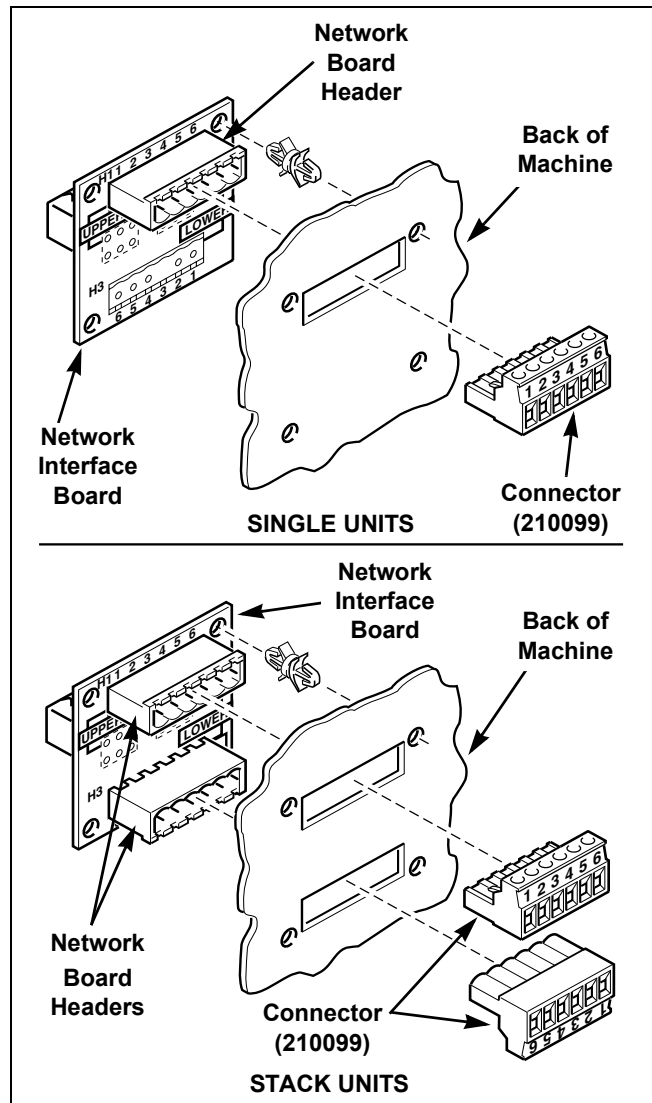
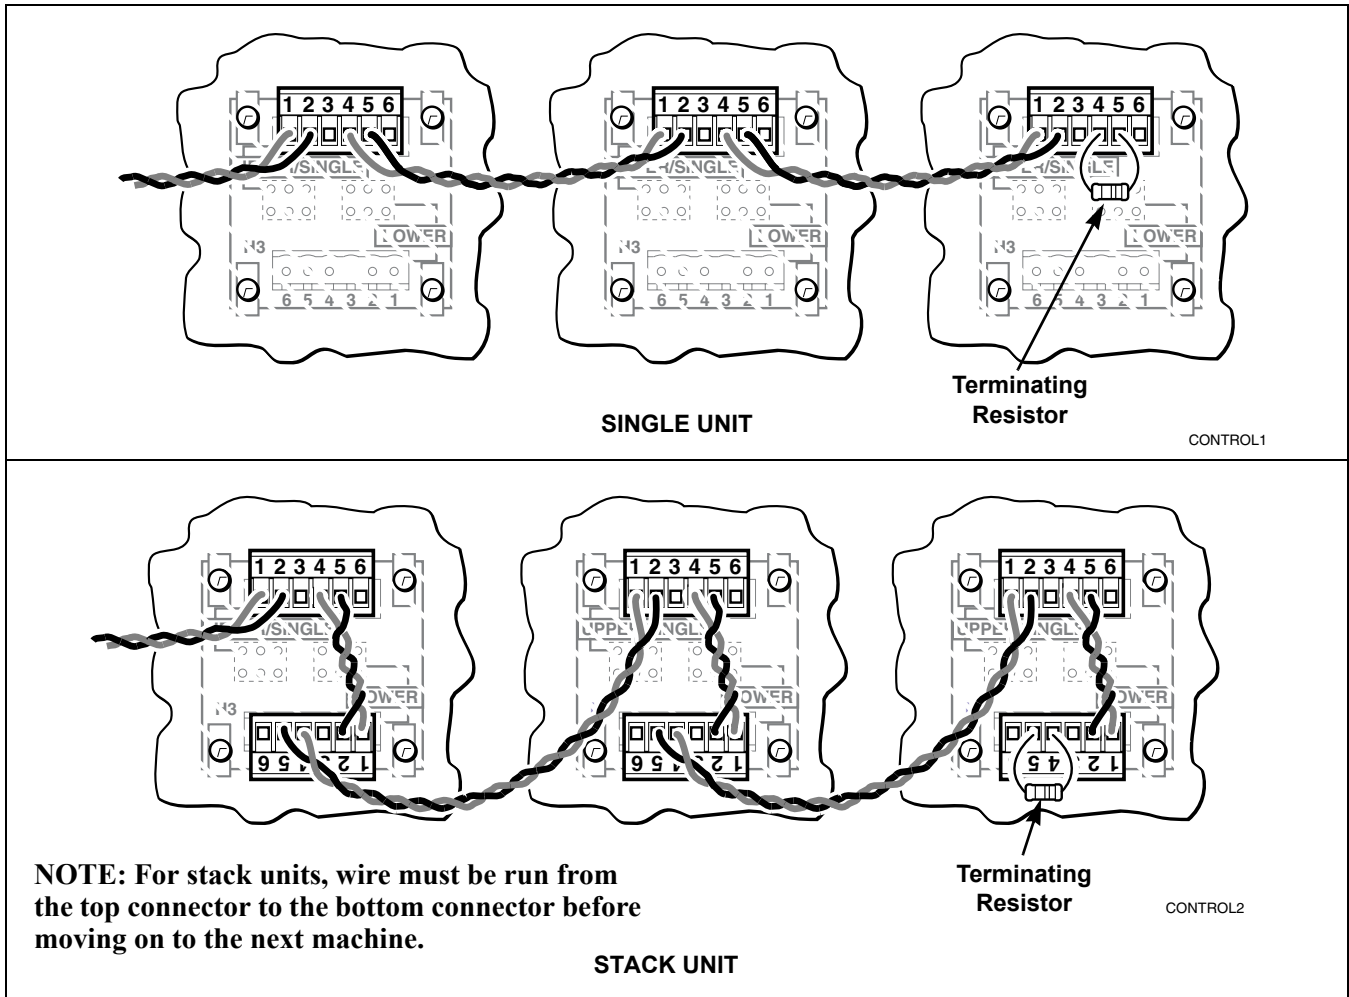

Figure 4
Figure 8
2. Locate the network board header on the back of the machine. Refer to *Figure 4*.
- Cut enough length of wire to reach the next machine's connector. The wire should be long enough to move the machine for maintenance, but not so long as to interfere with normal operation. Refer to *Figure 8*.
- Connect the wired connector to the Network Board Header. Refer to *Figure 4* and *Figure 8*.
- Run the wire to the next machine and follow Steps 3-8 until all machines have been connected. Refer to *Figure 8*.
- On the final machine of each segment, wires should be run into slots 1 and 2 as on all previous machines. A 120 Ohm, 1/2 Watt terminating resistor (included in kit) should be placed in slots 4 and 5 to terminate the connection at the end of the network. Refer to *Figure 8*.